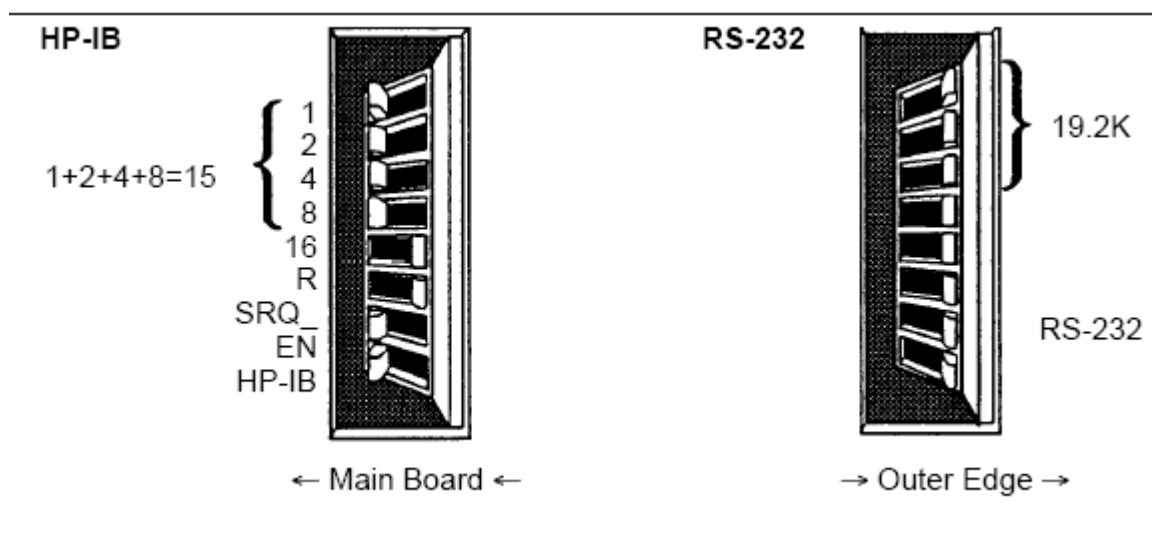

Fig.1. Setting HP 5890 DICE board at 19200 bps
3. When needed – alter the switches on the DICE board. See Fig.1. for settings required for 19200 bps port rate. As soon you modify switches position GC will show on display the selected RS-232 port rate.
For configuring the board 19257-xxxxx into HPIB it is required both lower at Fig.1 switches set to OFF position. At the switches (1-16) is defined HPIB address (in binary system, 1,2,4,8 is a corresponding decimal numbers which are summed to form decimal address representation). Standard address 15 is defined by setting into ON positions all of the 1-8 switches, and setting switch 16 to off.